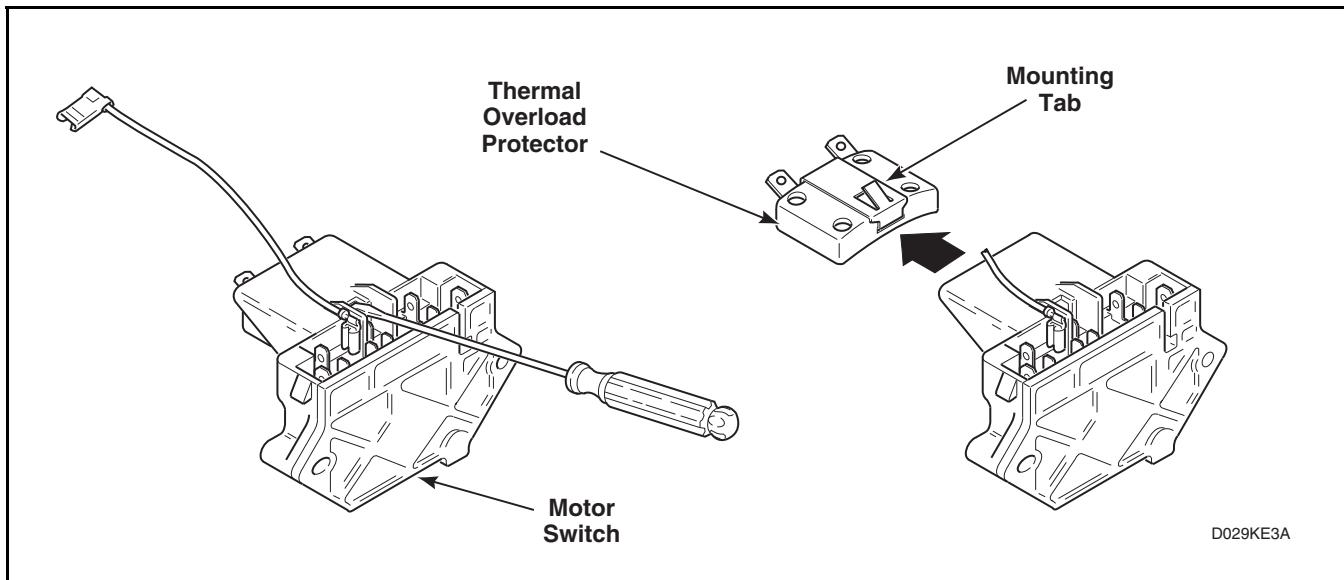

Figure 6
- b. Remove the two motor switch attaching screws. Refer to *Figure 6*. Disconnect switch leads. Remove motor switch.
Using a small bladed screwdriver, press the thermal overload protector mounting tab downward and remove the thermal overload protector from the inoperative motor switch. Refer to *Figure 6*.
- e. Install new motor switch onto motor and reconnect motor switch leads removed in Step "b". Refer to *Figure 6*.